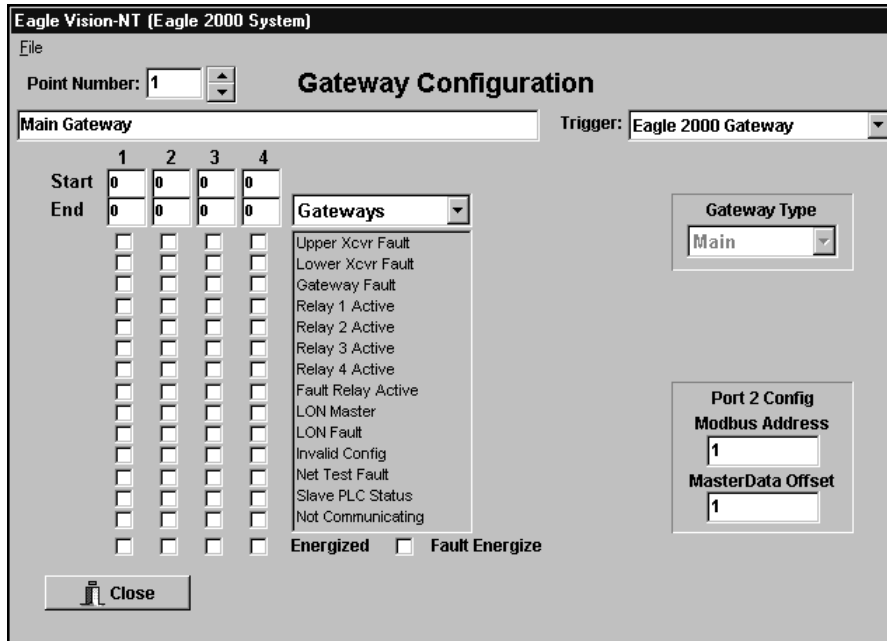

FIGURE VI-1
2. Click on the Define button. Select the gateway type, then click on OK. The Gateway Configuration screen will be displayed. See Figure VI-1.